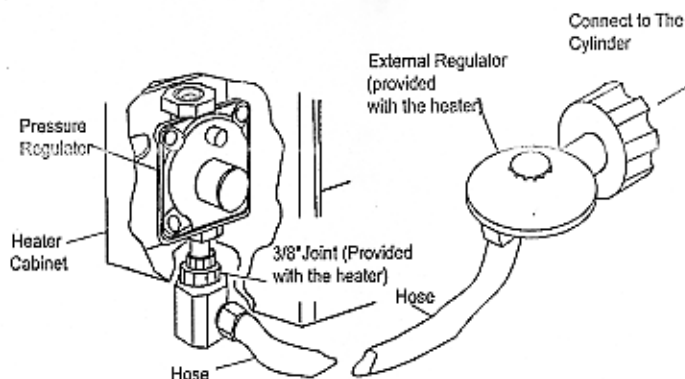

Figure 2- Gas Connection to Heater
3. Connect the hose on the regulator side through the 3/8"NPT joint to the pressure regulator on the bottom of the heater, and tighten it (see Figure 2 ).